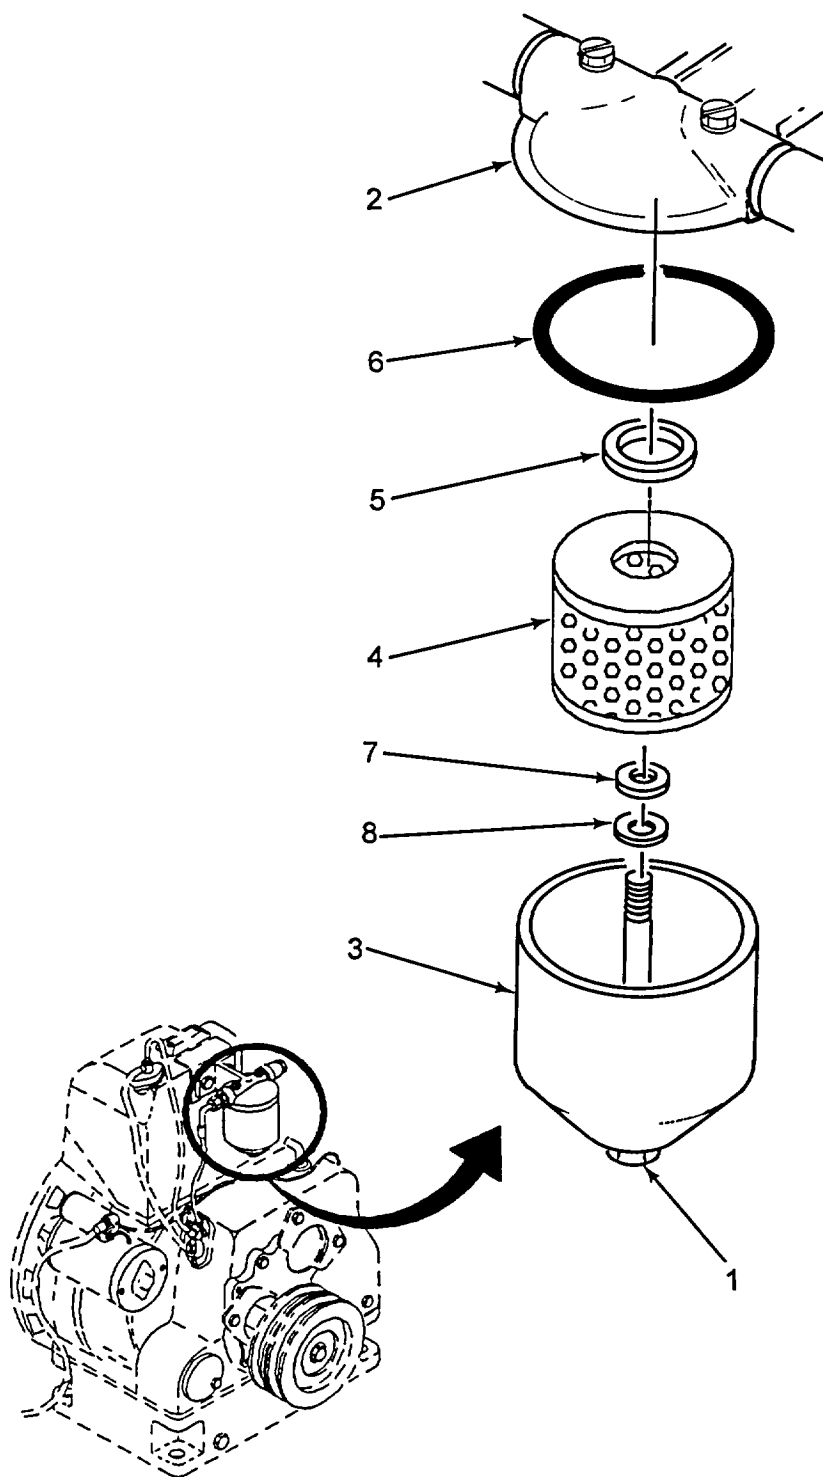

Figure 4-38. Fuel Filter Assembly
(3) Installation.
- (b) Assemble straight adapter (5), nipple (4) and tee (3) Install assembled parts in engine crankcase. Branch on tee (3) should be pointing up.
- (c) Install pressure transmitter (2) and pressure switch (1) in tee (3).
- (d) Refer to Figure 4-38 and lift out the dipstick (7) from the engine crankcase (5).
- (e) Fill the engine crankcase (5) to the top of the narrow section on the dipstick (7) to the 'H' mark (about 2 1/4 quarts).
- (f) Install the dipstick (7) into the engine crankcase (5).
- (h) Stop the engine and allow time for the oil to settle and re-check the level on the dipstick (7).
(1) Removal. (Refer to Figure 4-38.)
- (a) Loosen center bolt (1) from fuel filter head (2) and drain diesel fuel into drain pan.
- (b) Unscrew the center bolt (1) and remove fuel filter bowl (3), with center bolt. Remove filter element (4), element washer (5) and bowl seal (6) from filter head (2).
- (c) Remove upper seal (7) and lower seal (8) from filter bowl (3).
(2) Repair.